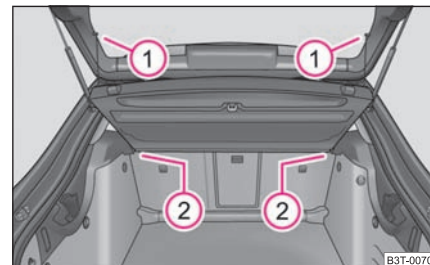

Fig. 79 Removing the luggage compartment cover
- Unhook the support straps on the boot lid ① ⇒ fig. 79.
- Pull the cover out of the holder ② horizontally to the rear.
- Install again by pushing the luggage compartment cover forwards into the holder ② and hanging the support straps ① on the boot lid.